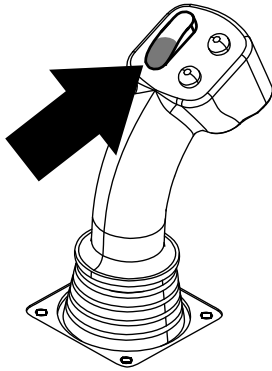
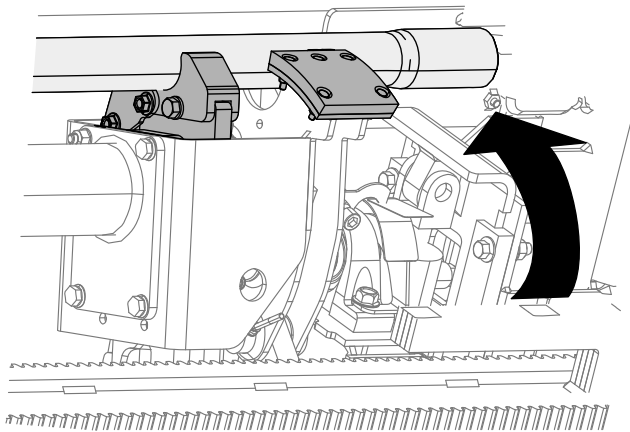

Figure 17
Figure 18
9. Hold the lower section of the rocker switch (Figure 17) until the cam assembly rotates to the selected row under the pipe box (Figure 18).